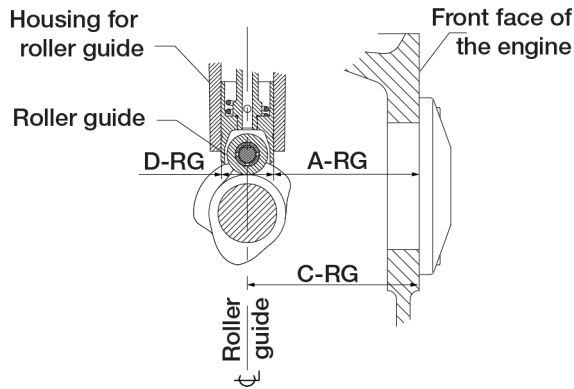

Figure 3: Roller guide
2. Find C-RG on the roller guides for the "fuel oil pump and exhaust valves" on all the cylinders. If the difference between C-RG Fuel Oil and C-RG Exhaust is more than 0.1 mm, realignment is necessary, See fig. 3.
A-RG	See fig. 3